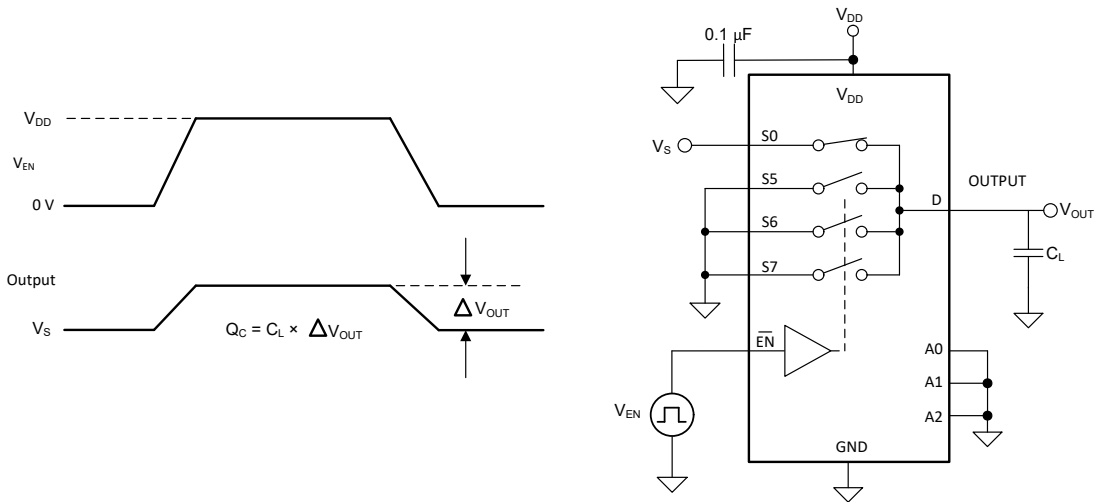

Figure 6-8. Charge-Injection Measurement Setup
Any mismatch in capacitance between the NMOS and PMOS transistors results in a charge injected into the drain or source during the falling or rising edge of the gate signal. The amount of charge injected into the source or drain of the device is known as charge injection, and is denoted by the symbol Q_C . Figure 6-8 shows the setup used to measure charge injection from source (Sx) to drain (D).